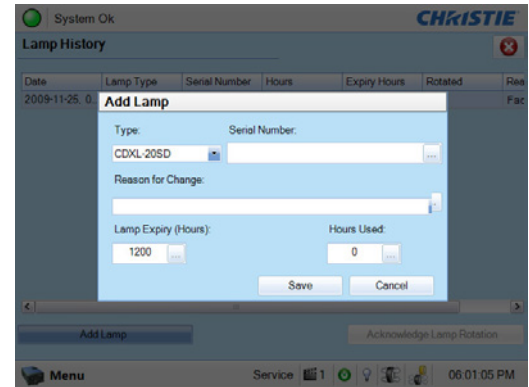

Figure 7-3 Add Lamp Window
11. **Software Adjustments.** In the **Advanced Setup: Lamp History** window, tap the **Add Lamp** button and record lamp type, serial number, reason for change and number of the hours logged on to the lamp. If the lamp has not been previously used, enter 0. Tap **Save** to save the data entered (**Figure 7-3**).